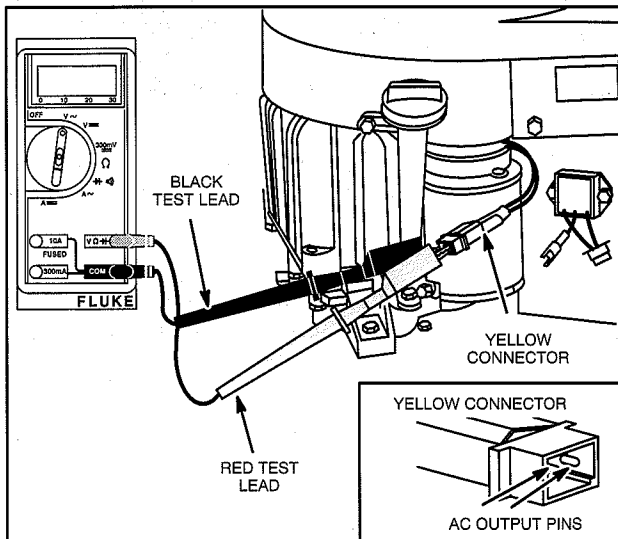

Fig. 22 - Testing AC Output
4. Insert RED and BLACK test lead probes into output terminals in yellow connector, as shown: Fig. 22. (Meter test clip leads may be attached to either terminal.)